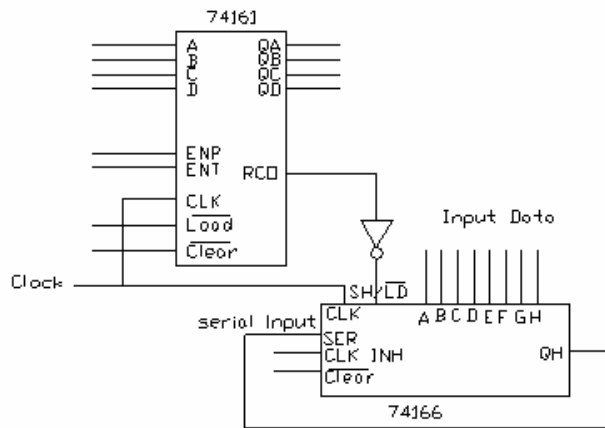

Figure 3: parallel-to-serial converter
- 3- Study the circuit in Figure 3 which represents parallel-to-serial converter. The counter provides timing to the 8-bit register (74166) such that the data at the inputs are inserted once, and then shifted out serially from the serial output QH. **Determine the necessary logic levels for all the pins (especially the control pins) for proper operation and record them on the figure,** (Don't simulate the circuit on EWB).
- 3- Build the parallel to serial converter shown in Figure 3, apply inputs 10101010 to the input data and record the output QH after each clock pulse.